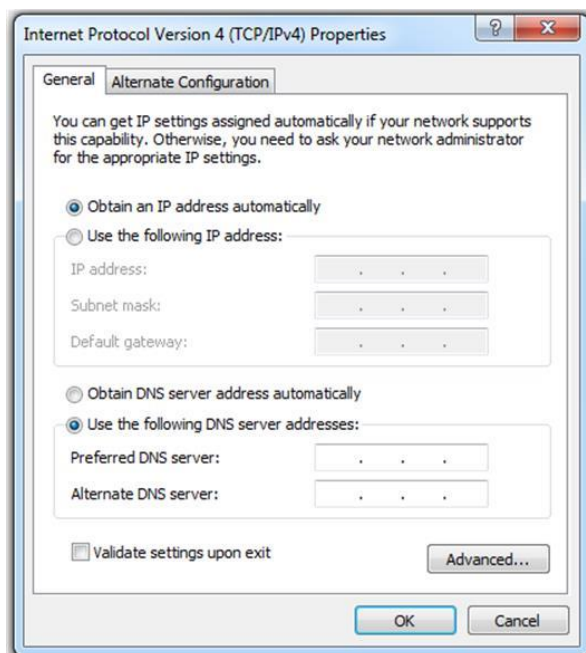

Figure 2-5 Windows Network Connections IPv4 properties page - DHCP
Step 7: To set the unit to DHCP mode, select the "Obtain an IP address automatically" option. See Figure 2-5.